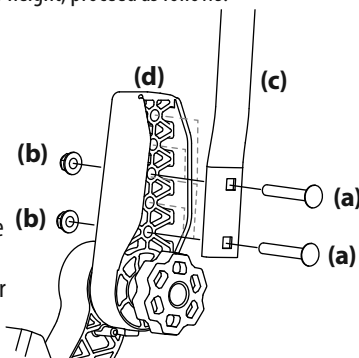

Figure 9
1. Remove the two carriage screws (a) and two flange lock nuts (b) that secure the lapbar drive control lever (c) to the upper handle adjuster (d). See Figure 9.
2. Move the lapbar drive control lever into one of the three available heights and secure in place with the carriage screws and flange lock nuts. See Figure 9.
4. If the lapbars do not line up after making the knob adjustment, loosen nuts (b), align lapbars and retighten nuts. Once this fine adjustment is made, the lapbars will align when using the knob adjustment. See Figure 9.